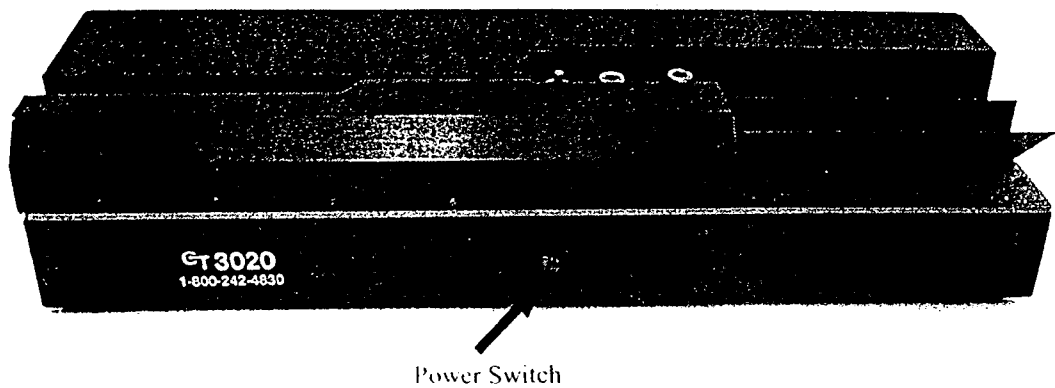

Fig 4 On/Off Switch
5. Turn on the CT Model 3020 by depressing the on/off power switch located in the middle front surface. (See Fig. 4.) An orange light in the power switch indicates the machine is on.